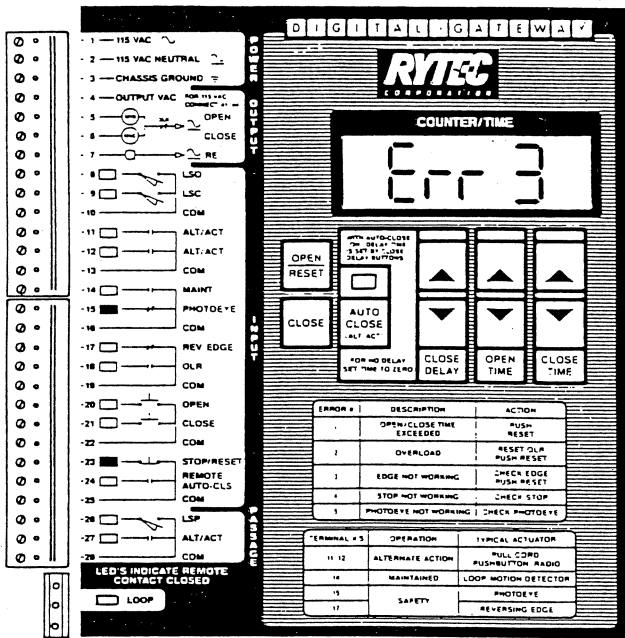

Figure 13.
7.3 Error 3 (Err 3) — see Figure 13